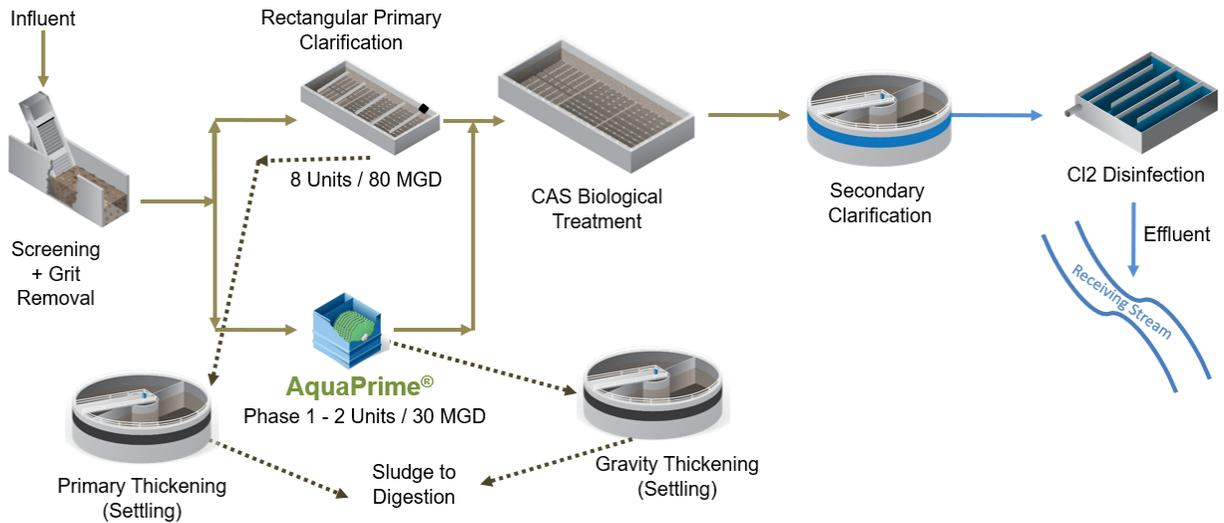

Figure 5: Plant flow scheme.
Design of the AquaPrime system was initiated in 2019 for an average flow of 15 MGD and maximum flow rate of 30 MGD. The design includes two (2) 24-disk units with each disk being 9.8 feet (3 m) in diameter. Each disk has an effective area of 107.6 ft² with a total filter area of 5164.8 ft² (479.8 m²). The plant flow diagram for the project is shown below in Figure 5.